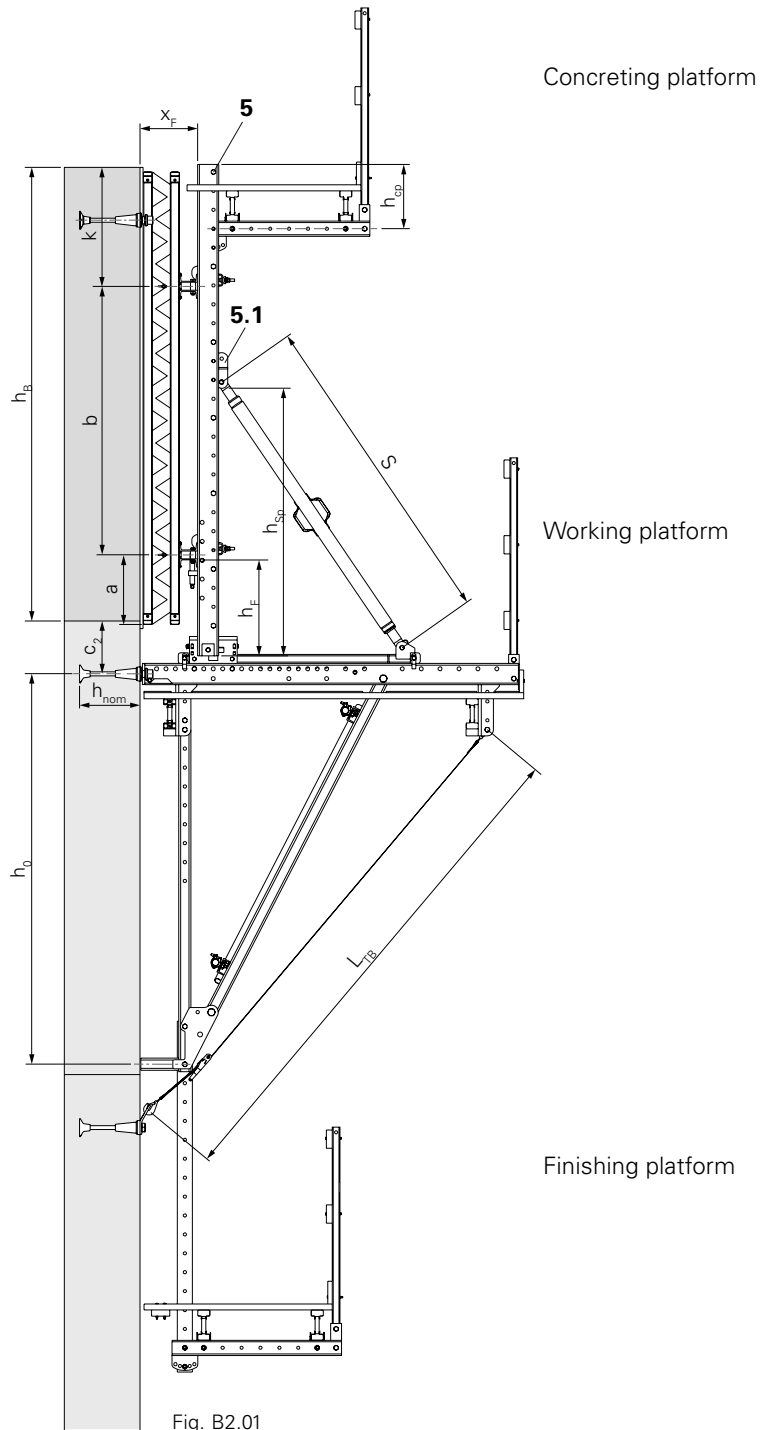

Fig. B2.01
The position of the Spindle Connector (5.1) h_{sp} and the position of the steel waler of the formwork must be included in the static calculations. These dimensions are decisive for the bending load of the Strongback (5). (Fig. B2.01)